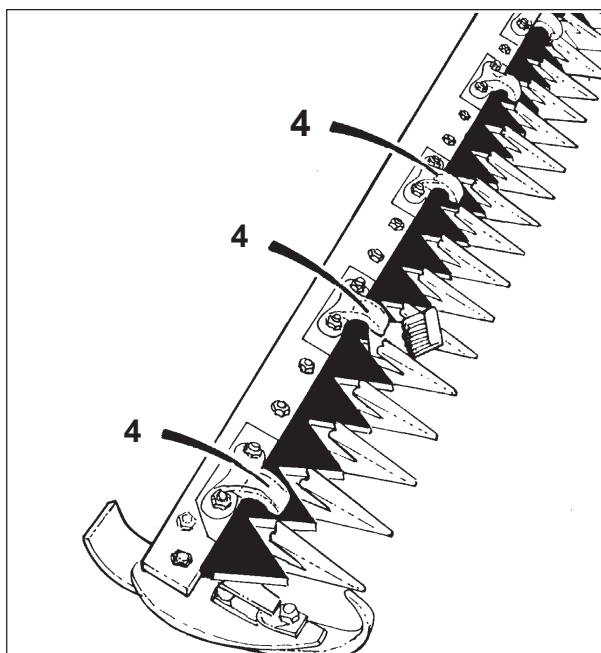

FIGURE 7
4. Knife wear plates and clips.* Figure 7